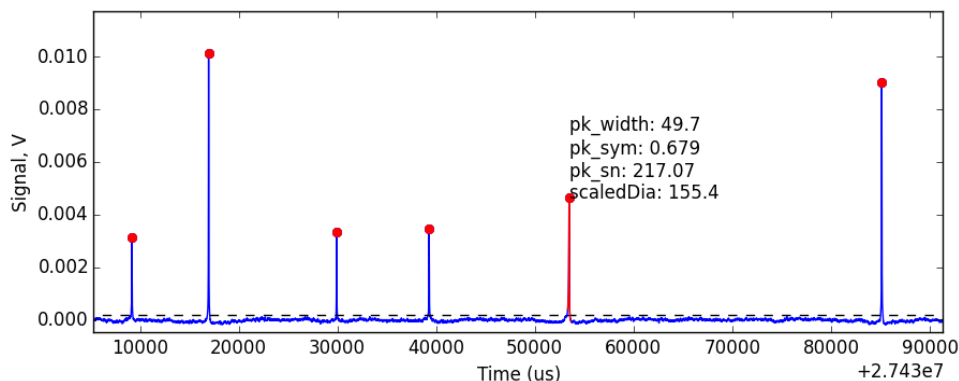

Figure 9. Inspecting individual peaks detected in the raw data.
- ❖ Clicking on the peak (at sufficiently high zoom) displays the details of the peak measurement (**Figure 9**).